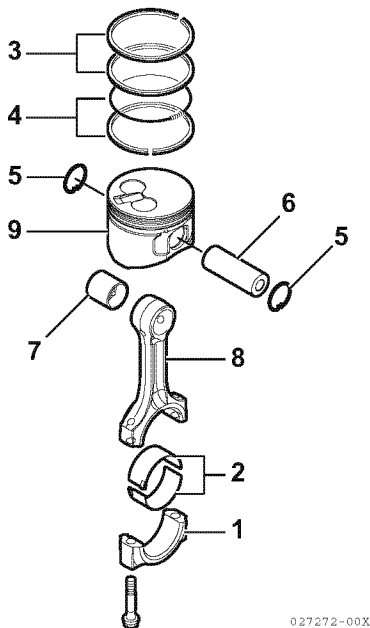

Figure 6-50
14. Remove the circlips (**Figure 6-50, (5)**) from the wrist pin.
15. Remove the wrist pin (**Figure 6-50, (6)**) and connecting rod (**Figure 6-50, (8)**) from the piston (**Figure 6-50, (9)**).
11. Remove the bearing inserts (**Figure 6-50, (2)**).
12. Remove the compression rings (**Figure 6-50, (3)**) from the piston using a piston ring expander.
13. Remove the oil control ring (**Figure 6-50, (4)**) from the piston using a piston ring expander.